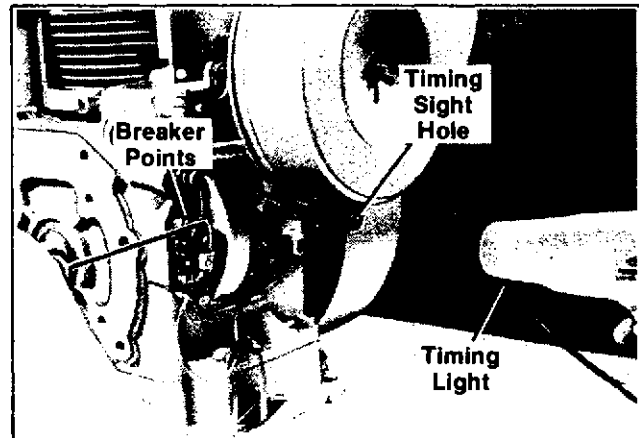

Figure 5-7. Timing Light Method
- F. Start engine, run at 1200-1800 RPM, aim timing light into sight hole - light should flash just as S mark is centered in sight hole or even with center mark on bearing plate or blower housing (see Figure 5-7).